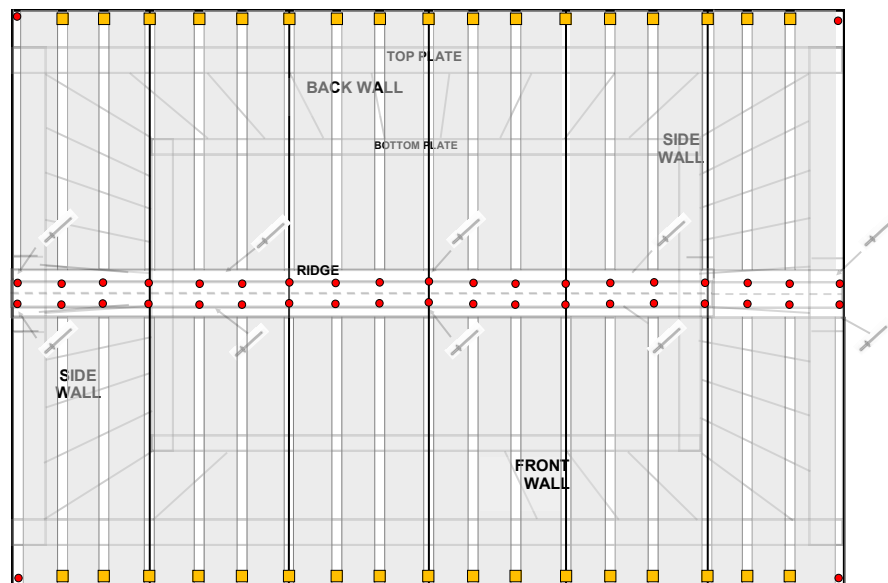

fig.2
Use the 50mm Clouts only on ribs covered by flashings, shown on pg 13 fig.2. Predrill holes using a 3.5mm drill bit. Use Roofing Screws on all other ribs. Ensure screws are not overtightened as this can damage the seals and cause the shed to leak.
- Secure with 2 x 75mm screws through the top of the Jack Studs into the Timber Top Plate (fig. 2).
- Rivet the 2 Ridge Caps together using 4 rivets, so total flashing is 3.050m long. Rivet the Ridge Flashing to the centre of the roof using 10 x rivets as shown (fig.2).